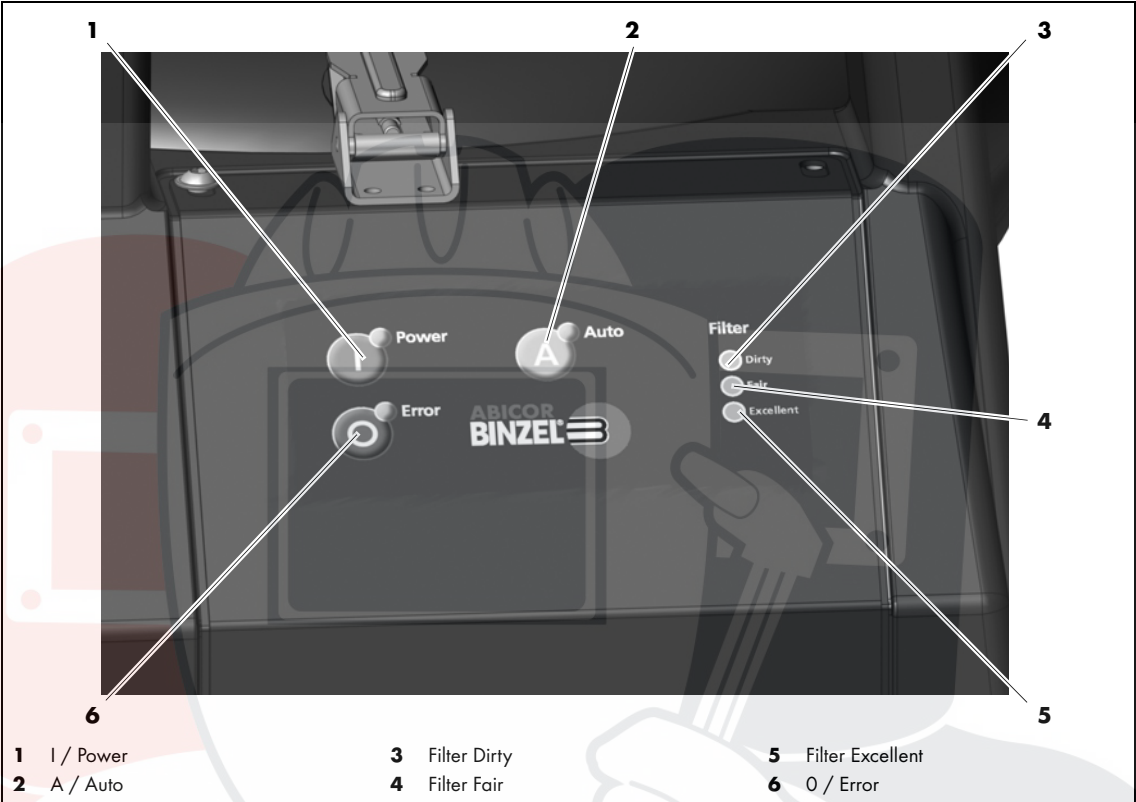

Fig. 3 Control elements
- 1 Connect the torch system (4), hose, and rubber connector to the fume extraction system (1).
- ⇒ Fig. 3 Control elements on page EN-11